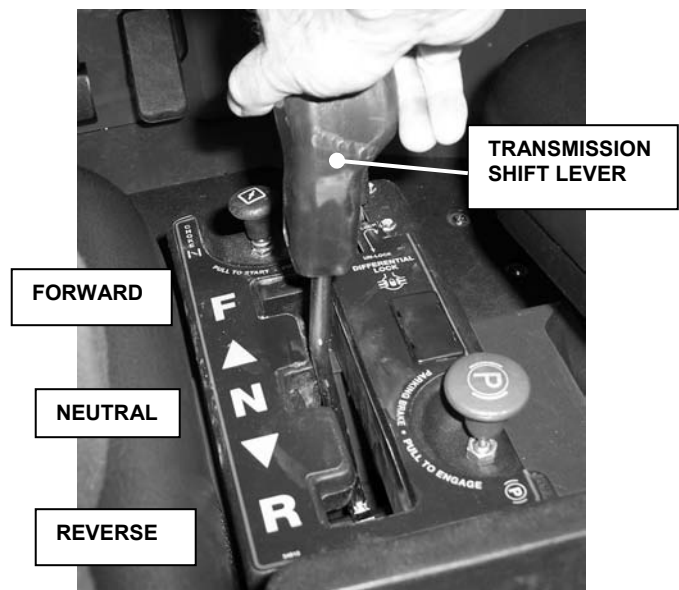

FIGURE 2.4
**2.2.3. Transmission Shift Lever.** The shift lever has three positions. It controls the direction of travel only (not speed). Move the shift lever to the front slot for forward (F). Move the shift lever to the back slot for reverse (R). Place the shift lever in the center slot for neutral (N). See Figure 2.4. The shift lever must be placed in neutral (and the brake pedal fully depressed) for the engine to crank and start. The machine must be at a complete stop and the engine at idle before shifting. Do not race engine and then shift into gear. Move the shift lever with a quick and positive motion to avoid grinding gears.